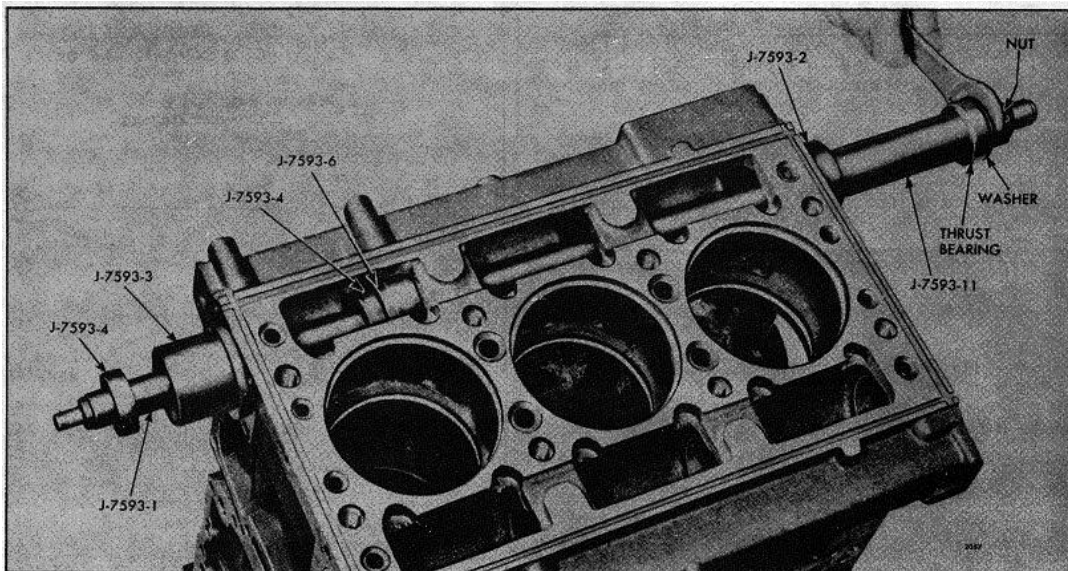

Figure 4. Installing Intermediate Camshaft Bearing
1. Insert pilot J 7593-2 in the bore of the block as shown in Fig. 4. Use the small end of the pilot if an end bearing has been installed. Refer to B and C of
5. Next, place a spacer (if required), thrust washer, plain washer and hex nut over the threaded end of the puller. The short spacer J 7593-11, shown in Fig. 4, is used on the three cylinder (In-Line) and 6V blocks. The long spacer J 7593-10 is used on the two cylinder block.